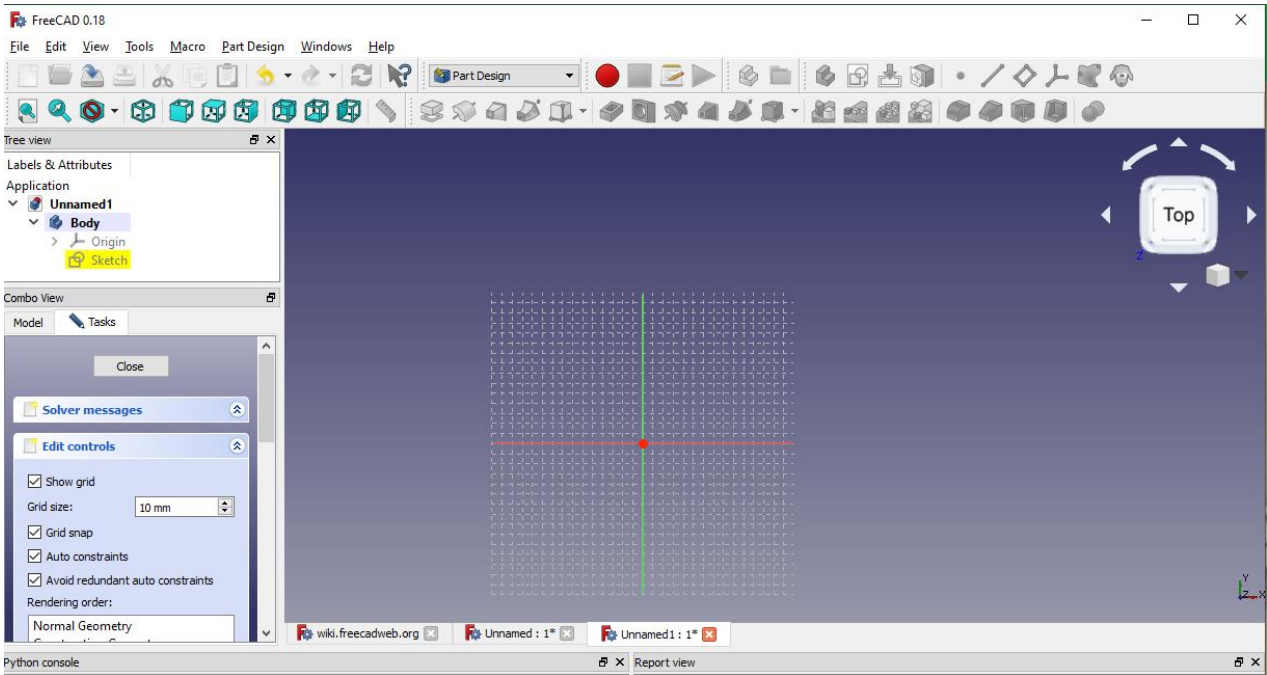

Figure 16 – Working with a **Grid** option
4. New options have appeared under the taskbar. Here we can change the properties of the grid. Check all the grid parameters and set the grid size to 10 mm. Unchecking the “**Show grid**” checkbox will hide\open the grid, and the “**Grid size**” will change its spacing. Selecting “**Grid Snap**” automatically snaps the point to the nearest intersection (Figure 16).